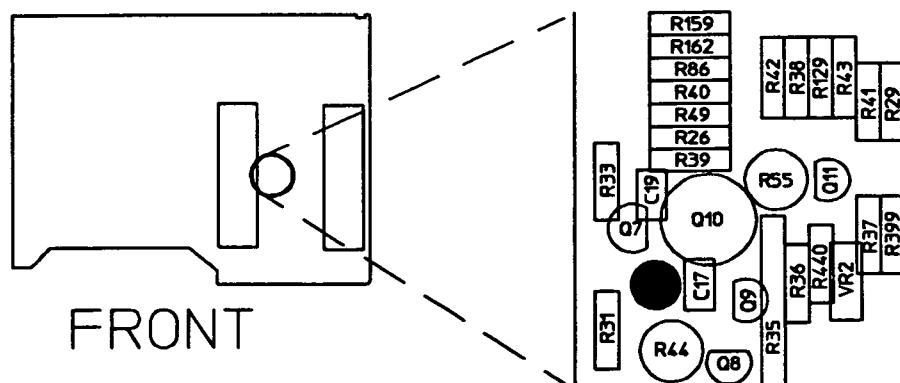

Figure 2-61. A1C16 Adjustment Location
7. The adjustments and waveforms are shown in figures 2-61 through 2-65.